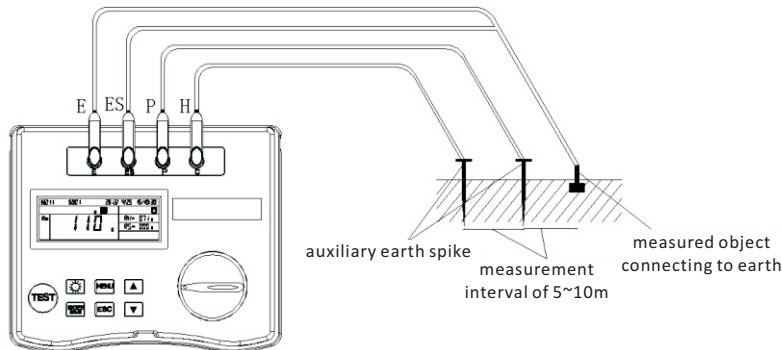

Fig.23
(3) Connection of Auxiliary Earth Spikes and Test Leads (Reference To Fig. 23)